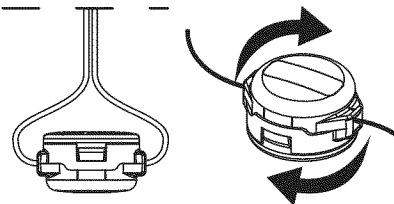

Fig. 17
2. Using 10.5 ft. (3.2 m) of 0.095 in. (2.41 mm) replacement line push an end of the line through one of the eyelets until it protrudes through the opposite side. Continue pushing or pulling the line until the line is evenly distributed, so approximately 5 ft. (1.5 m) is visible from both sides of the cutting head. (Fig. 17)
3. Hold the cutting head knob and turn the cutting head clockwise to wind the line around the inner reel until 5 in. (12.7 cm) is protruding from each side of the cutting head. (Fig. 17)